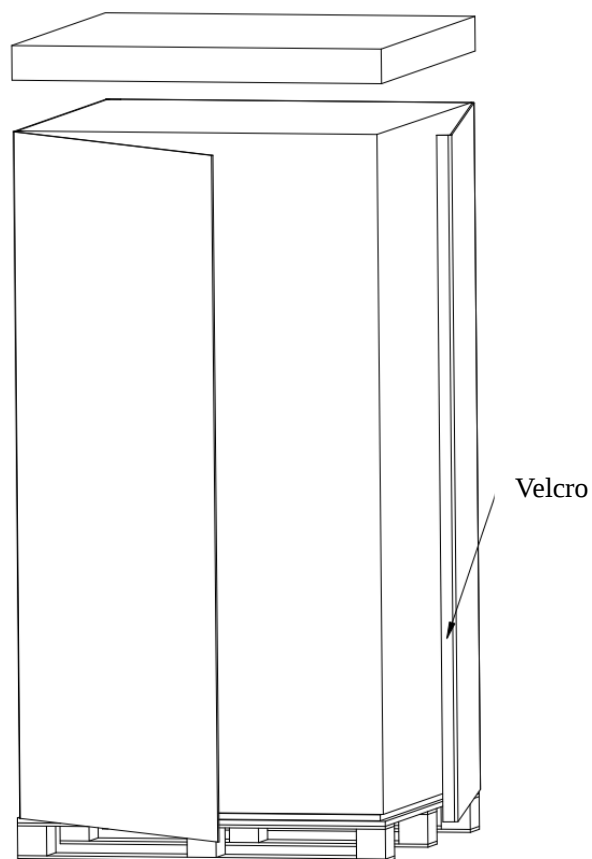

Figure 3-4 Disassemble the box
Step 3: Tear off the Velcro and open the carton, as shown in Figure 3-4;